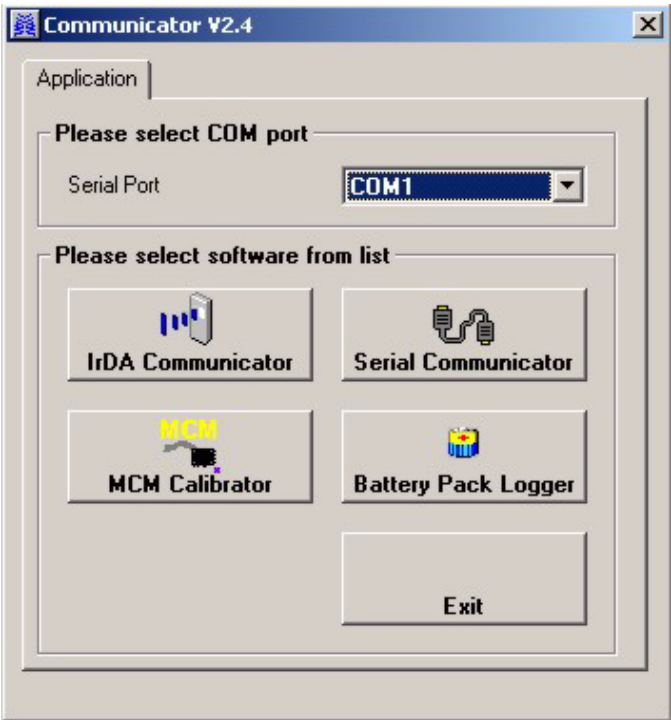

Figure 76 - Communicator Software - Application Startup Screen
- 4.2 A “welcome” dialog box is briefly displayed, followed by the application startup dialog box (refer to Figure 76):
- 6.1.6.2 The application startup dialog box is then displayed (refer to Figure 76).
- 7.1.2 The application startup dialog box is then displayed (refer to Figure 76).